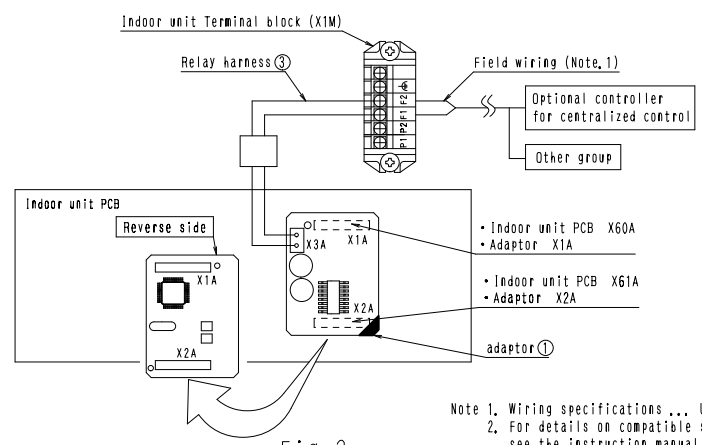
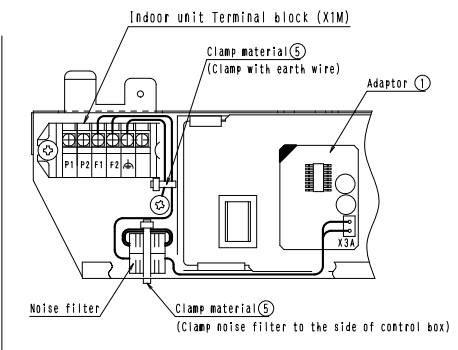

Fig. 2
Fig. 3
- (2) Insert the Relay harness ③ into the connector of the Adaptor ① (Fig.2)
- (3) Remove the remote control terminal block(X1M) from the control box mounted inside the indoor unit.
- (4) Connect the Relay harness ③ with the terminals F1 and F2 on the terminal block(X1M), (Fig.2)
- (5) Mount the remote control terminal block(X1M) on the inside of the control box as it was before removing it.
- (6) Bind the extra wires with the attached Clamp material ⑤ so that the wires do not go over the indoor unit PCB, (Fig.3)
- (7) Connect the wires from the terminals F1 and F2 to the centralized control, (Fig.2)